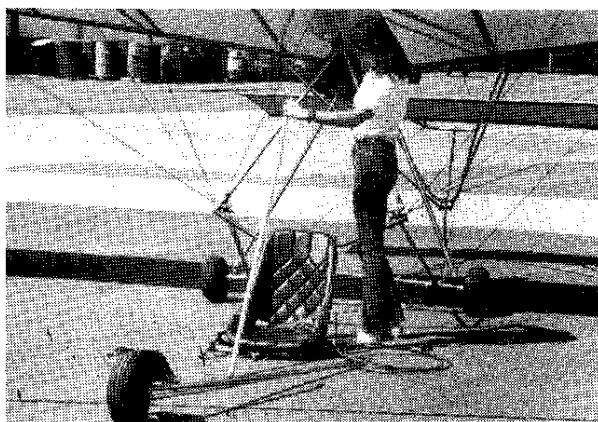

Figure 2.39
45. Position nose gear, seat assembly, and seat support down tube in front of MX, ready for installation. **Figure 2.39**